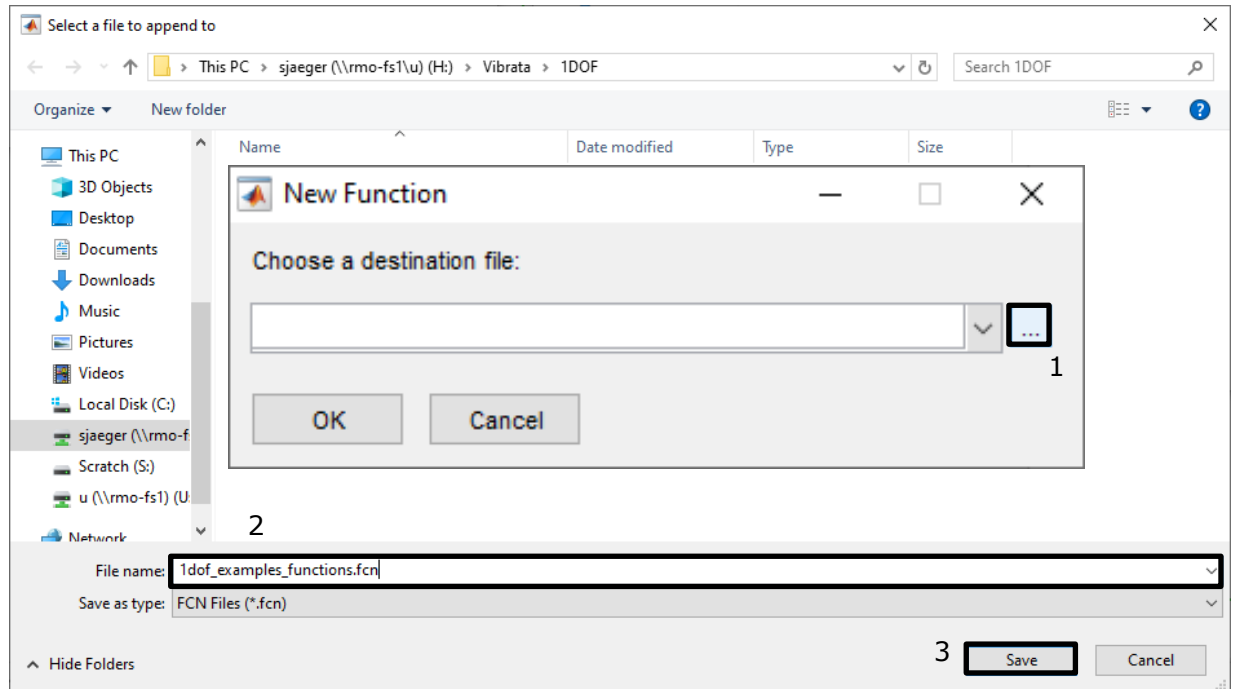

Figure 4-12. Save excitation function to new function file.
- d. Click the **Create** button to save the new function into an *fcn* file. Call this file "1dof_examples_functions.fcn" and place it in the 1dof folder (Figure 4-12).